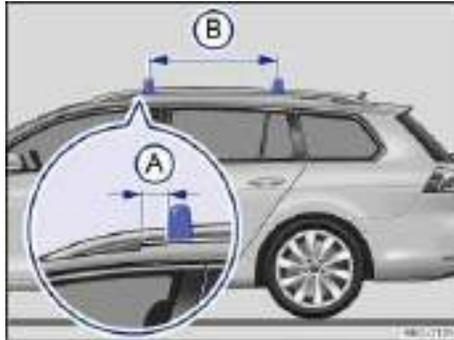

Fig. 102 Mounting the base carrier and roof rack.
The base carrier is mounted on the roof rails. The distance between the front base carrier crosspiece and the front foot of the roof rail ⇒ fig. 102 (A) must be at least **2 inches (5 cm)**. The distance between the base carrier bars (B) should be about **29.5 inches (75 cm)**.
- Secure the roof rack base carrier only at the attachment points shown in the illustration ⇒ fig. 102.